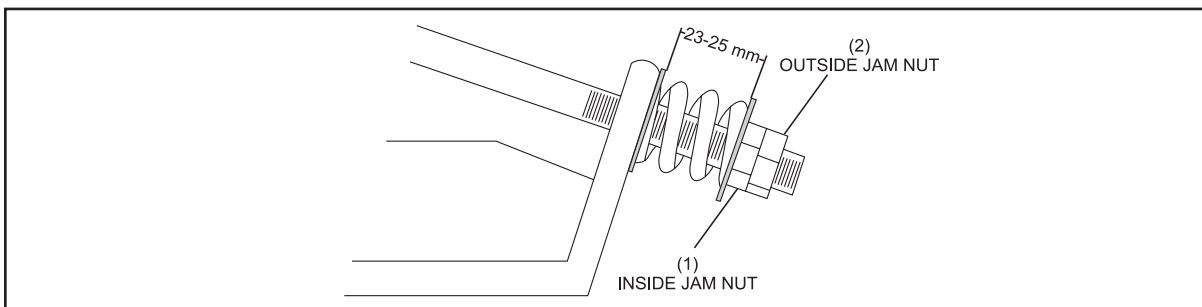

Figure 5-3. Transport Band Tension Using Compression Springs.
1. Tighten the inside jam nut until the spread of the compression spring is 23 to 25 mm. Refer to Figure 5-3.
3. If the band is moving to the left, tighten the inside jam nut on the left side 1/2 turn and loosen the inside jam nut on the right side 1/2 turn. Refer to *Figure 5-3*. If the band is moving to the right, tighten the inside jam nut on the right side 1/2 turn and loosen the inside jam nut on the left 1/2 turn.